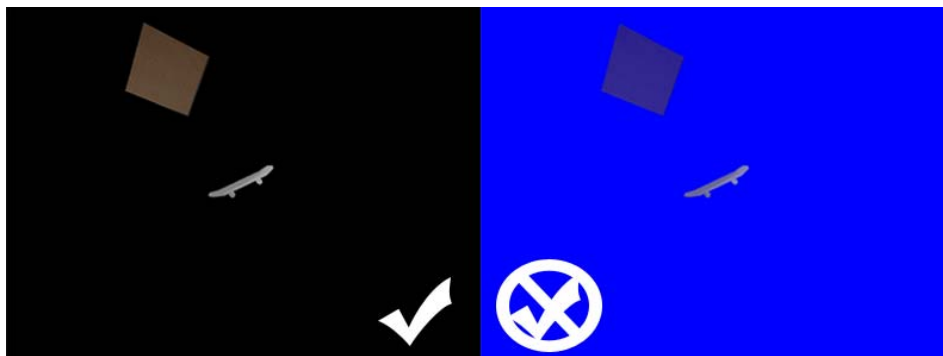

Figure 1. Running Demo
5. A textured box and an untextured skateboard rotating in the display connected to the DVI output of the board must appear. Press q to exit the demo application. If the colors are wrong most likely an LTIB version 20080528 is being used, see Figure 1. A patch must be applied to correct the colors. Please refer to Appendix A, “Applying DIU Patches to the Kernel” for instructions to solve this issue.